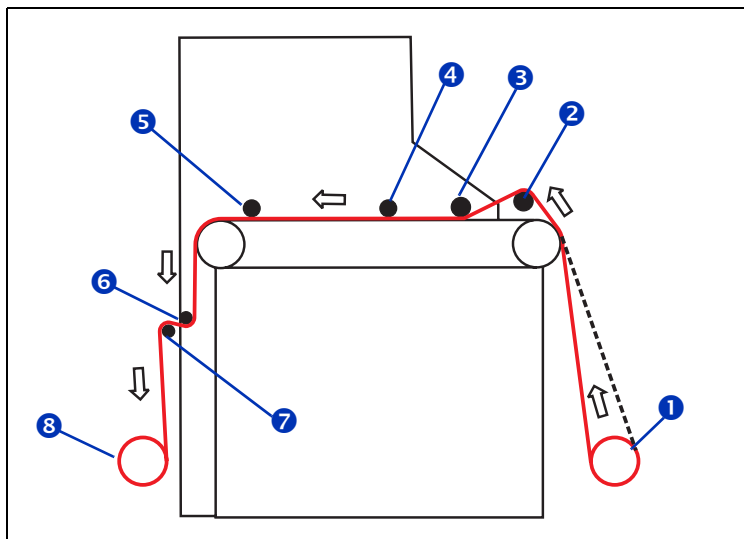

Fig. 2-5. Media route in the takeup system
2. If you will be using the takeup system, install the takeup spool (see 8 in Fig. 2-5).
Looking down the length of the takeup roller from the user end, the roller rotates clockwise. Ensure that the media is wrapped as shown in Figure 2-5 on page 2-15.